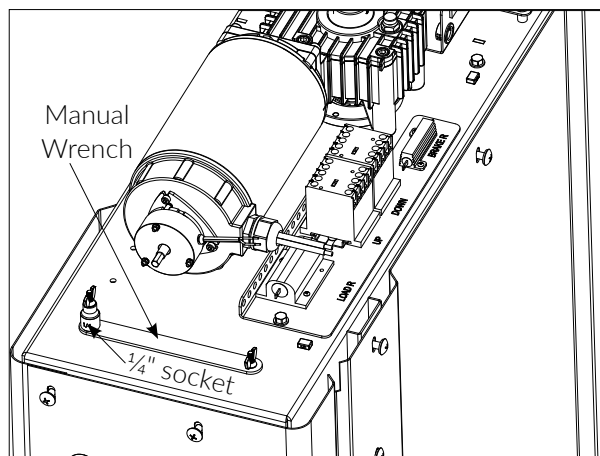

Figure 3-4
4. Remove the two wingnuts holding down the manual lowering tools (1/4" wrench and 1/4" x 3/8" drive socket). *See Figure 3-4.*